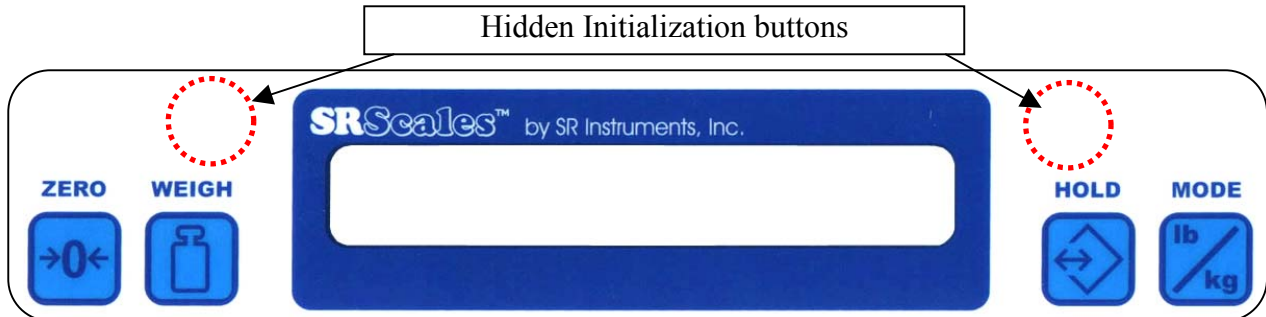

Figure 7: Location of Hidden Initialization Buttons
STEP 1: (Figure 7) The Initialization buttons are hidden in the label in the positions indicated.